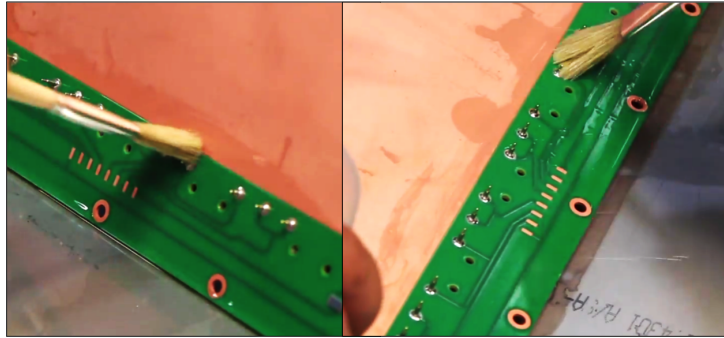

Figure 24: Cleaning of the HV circuit.
Step 2: Generously pour acetone just above the HV circuit while brushing all the soldering points. Repeat this step several times to ensure that all contaminants are removed (Fig. 24).